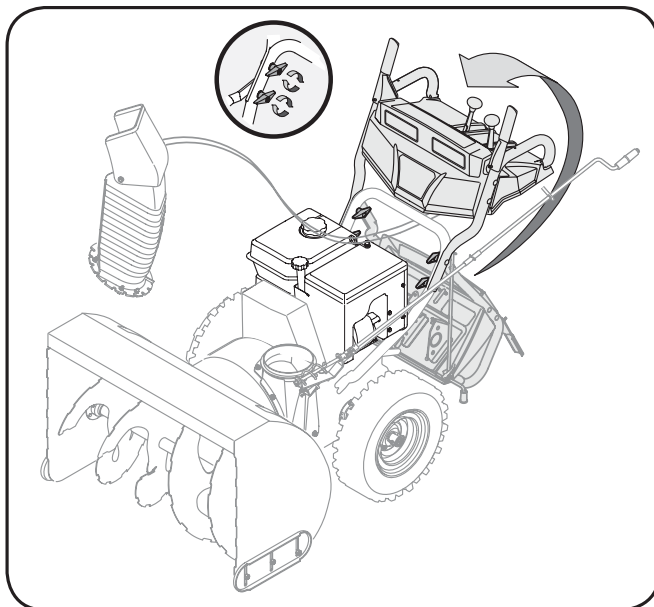

Fig. 3-1
- Raise the upper handle assembly until it locks over the lower handle. See Figure 3-1.